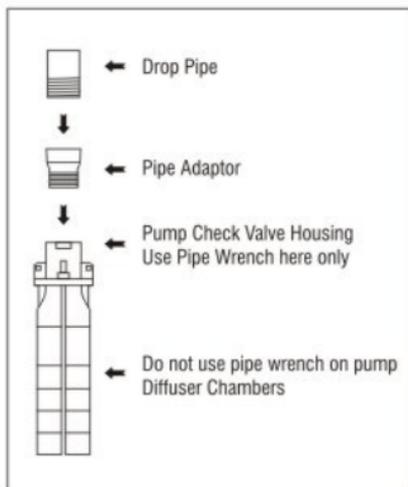

Fig. 3
**CAUTION: Do not use pipe wrench on pump shell. Use only on pump check valve housing flats ( see fig.3).**
It is recommended to first install the delivery pipe to the pipe adaptor. Then install the delivery pipe with the adopter to the pump check valve housing as shown in fig.3.